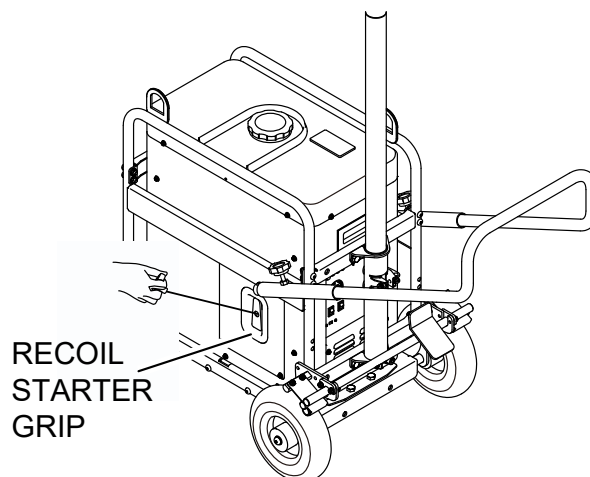

Figure 20. Recoil Starter
5. Pull the recoil starter grip until resistance is felt, then pull briskly and smoothly.(Figure 20).